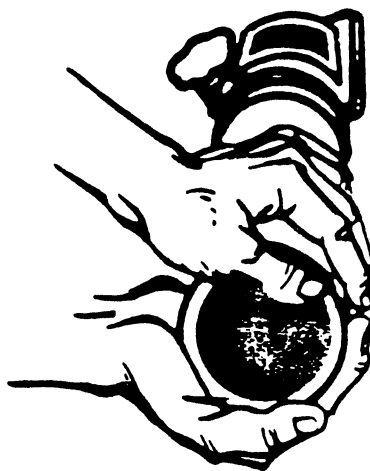
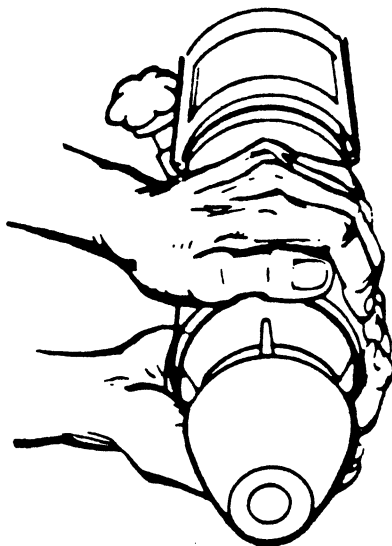

Fig 5-3. A-gunner's thumbs over the muzzle.
Fig 5-4. A-gunner removing the round.
e. When the barrel reaches the horizontal position, and not before, the A-gunner moves the thumb of each hand over the muzzle (fig 5-3). When the fuze of the misfired round reaches the blast attenuator device, the A-gunner stops the round with his thumbs, without touching the fuze, and carefully removes it from the barrel (fig 5-4). The ammo man shakes the barrel to dislodge any remnants from the last round fired, and he relocks it into the socket of the baseplate.